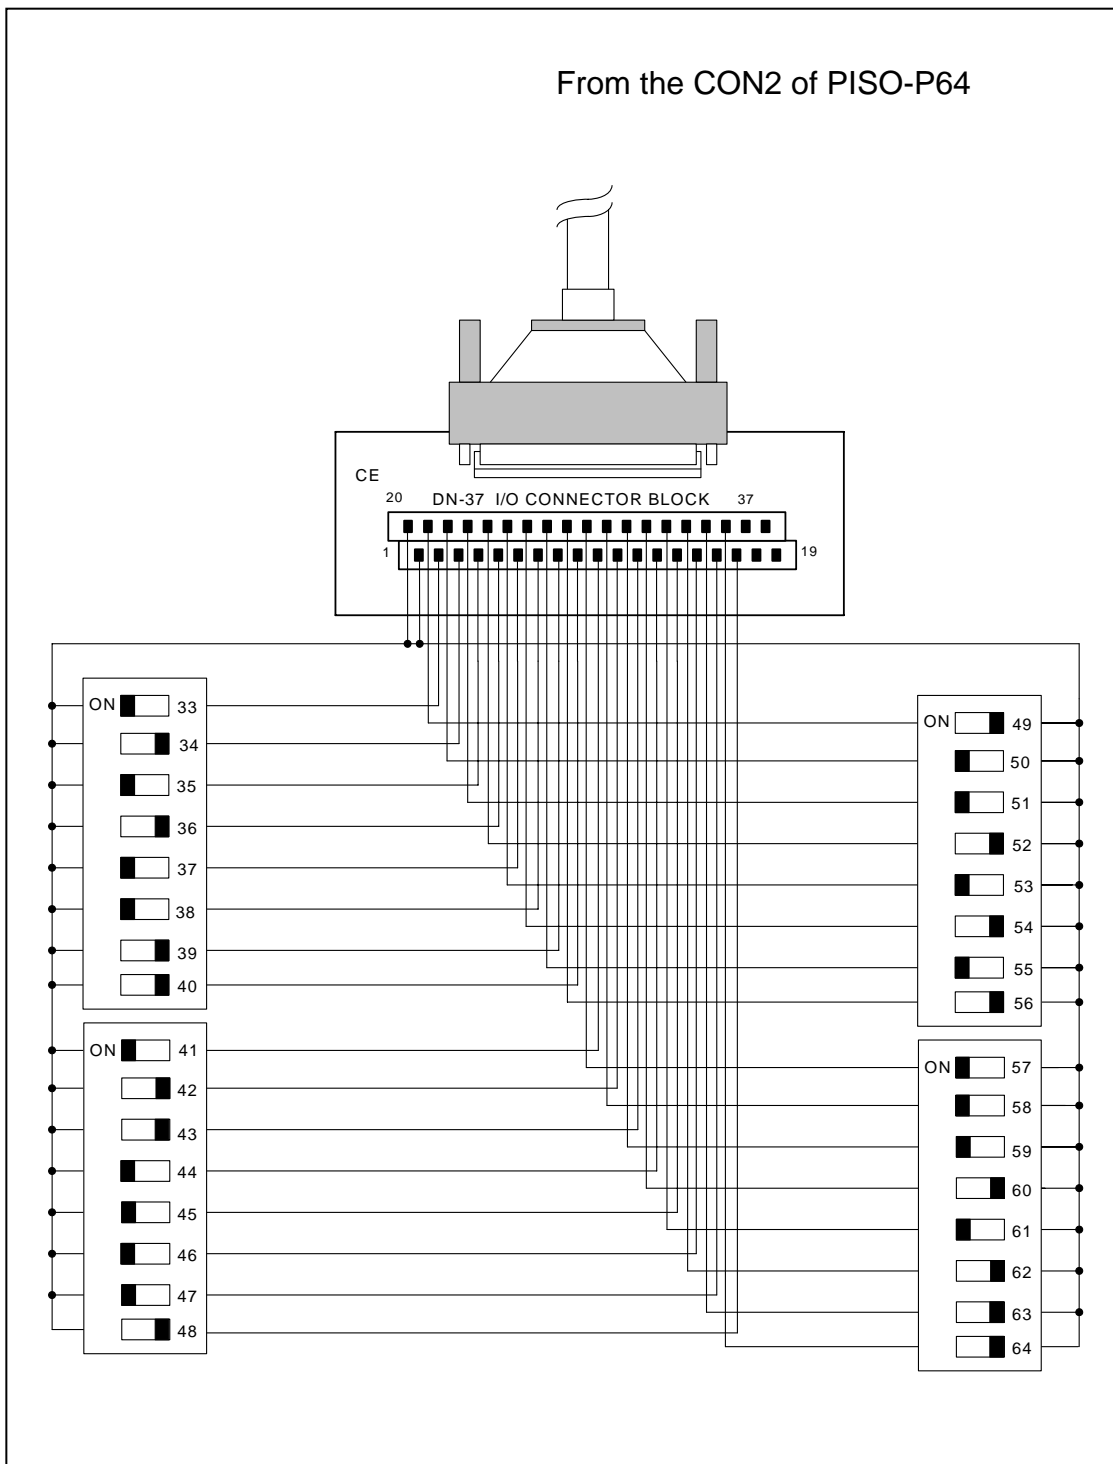

Figure 4-2-3. The circuit diagram of external device 2 for the digital inputs of **PISO-P64**
- Refer to Figure 4-2-3 for the circuit diagram of external device 2